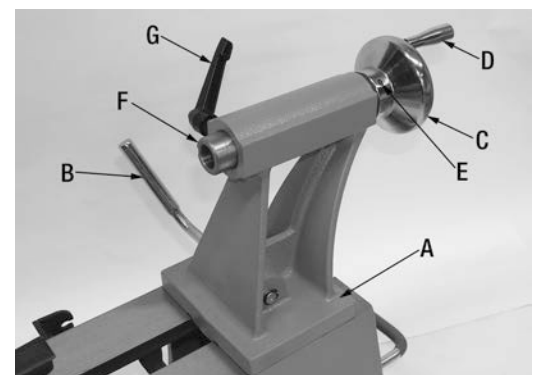

FIGURE 11
1. Slide the tailstock base (A) Fig.11 onto the lathe bed using the provided slotted clamp and large hex. nut, to allow for adjustment, do not fully tighten hex. nut.
2. The tailstock can be moved to any position on the wood lathe bed by loosening the tailstock lock lever (B) and pushing the tailstock to the desired position on the bed. Tighten tailstock lock lever (B) once the adjustment is made.
3. Install the handwheel (C) and handle (D) to the tailstock, tighten set screw (E).
4. The tailstock quill (F) can extend up to 1-5/8" from the tailstock housing. To move the tailstock quill, loosen the lock handle (G) and turn the tailstock handwheel (C). Retighten lock handle once the adjustment is made.
5. Before using the wood lathe, make sure the lock handle (G) firmly locks the quill in position, the lock handle must be aligned and must engage the quill keyway or else the quill will just spin.